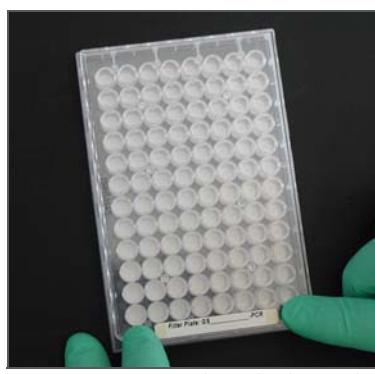

Figure 20 Apply Label to Filter Plate
- ▶ Write the PCR plate barcode number in the space provided on a “Filter Plate: GS _____ -PCR” label. Apply the label to the top surface of the filter plate, adjacent to column 12 (Figure 20).